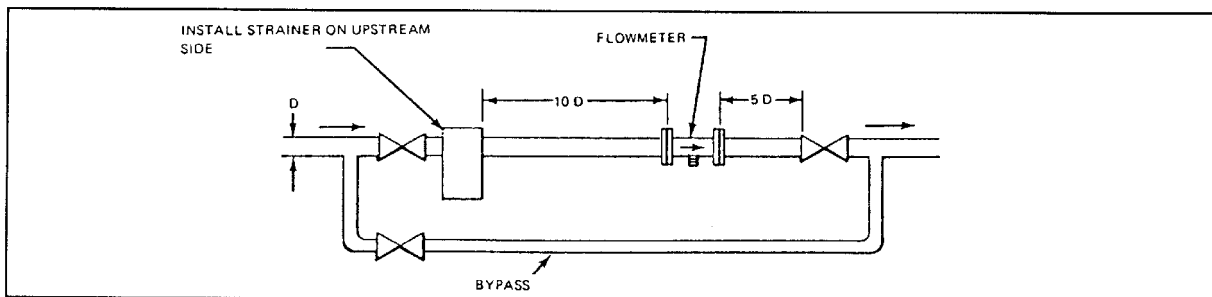

Figure 22. Flowmeter Installation with Shutoff Valves
Install flowmeter (Figure 22) so that it is free of magnetic field effects and vibration. In general, do not locate the flowmeter within 3 m (10 ft) of heavy electrical equipment.
When flow is stopped, close downstream shutoff valve (Figure 22) to keep system full.
1. Before liquid is allowed to flow through flowmeter (see Figure 22), remove flowmeter and install a length of pipe in its place.